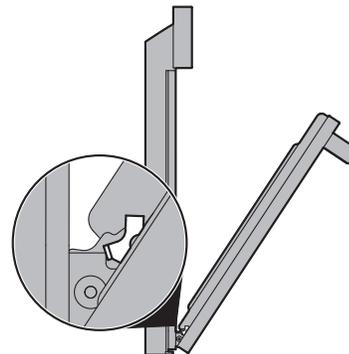

Figure 11: Removal position
3. Grasp the door by the sides, and close the door until the door frame makes contact with the unlocked hinges (Figure 11).
2. Hold the oven door at the same angle as the removal position (Figure 11) Carefully insert the hinge levers into the oven frame until you feel the hinge levers are seated into the hinge notches. The hinge arms must be fully seated into the hinge notches before the oven door can be fully opened.